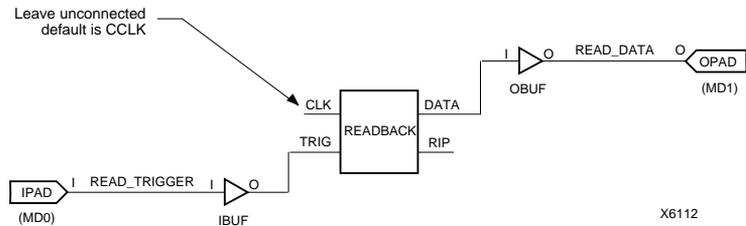

Figure 3-1 READBACK Symbol
2. Connect IPAD, OPAD, IBUF, and OBUF primitives to the TRIG and DATA pins of the READBACK macro as shown in Figure 3-1. You can then lock the IPAD and OPAD components to any of the user-programmable I/O locations.